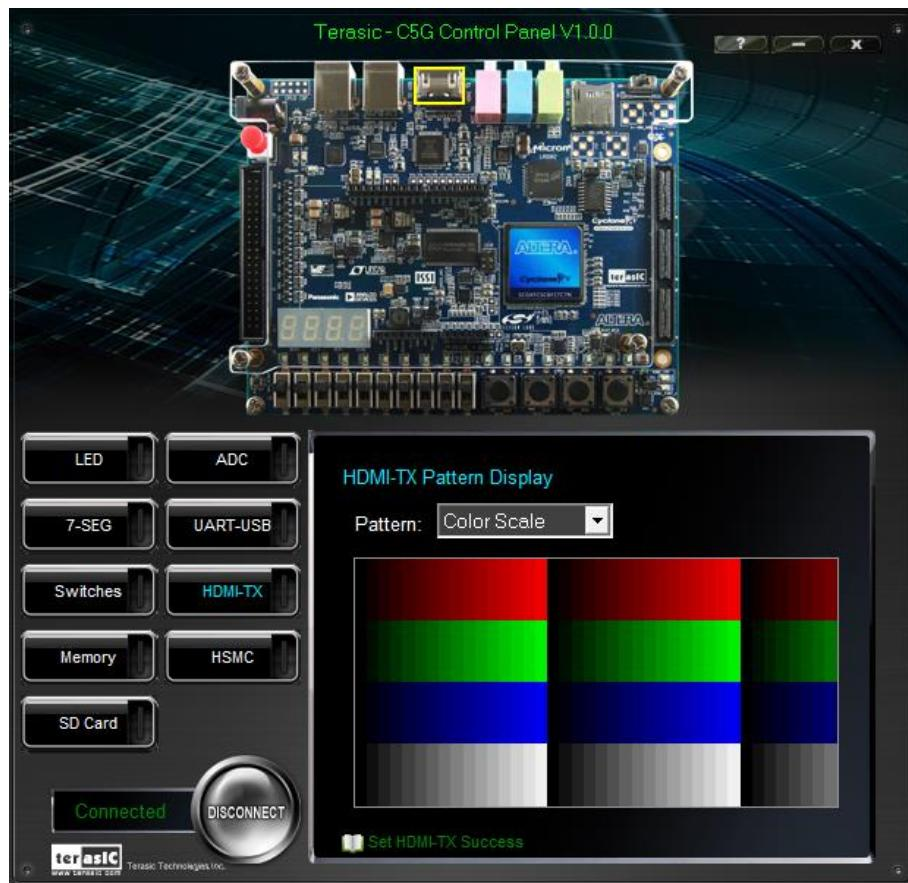

Figure 2-11 Controlling VGA display
1. Choosing the Video tab leads to the window in Figure 2-11.
4. Click the drop down menu shown in Figure 2-11 where you can output the selected pattern individually.